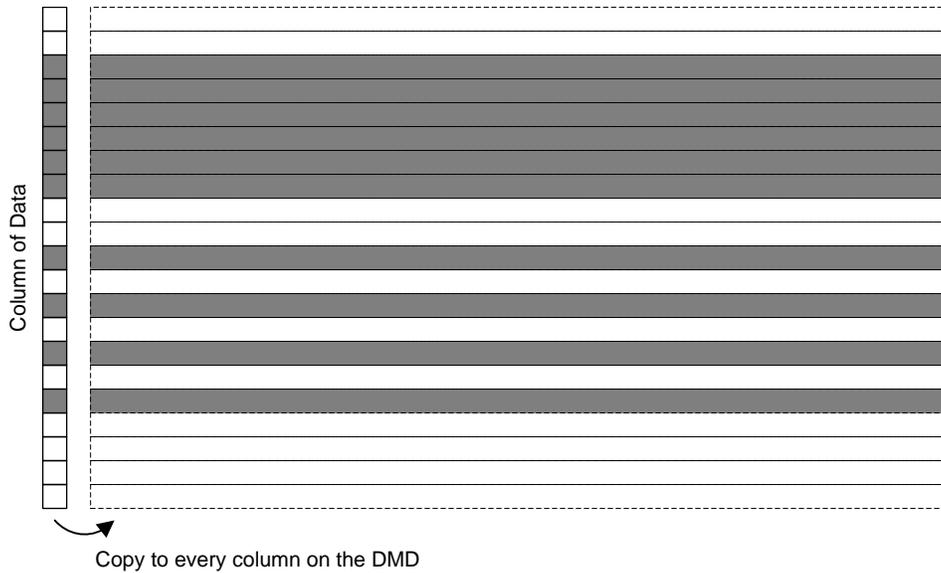
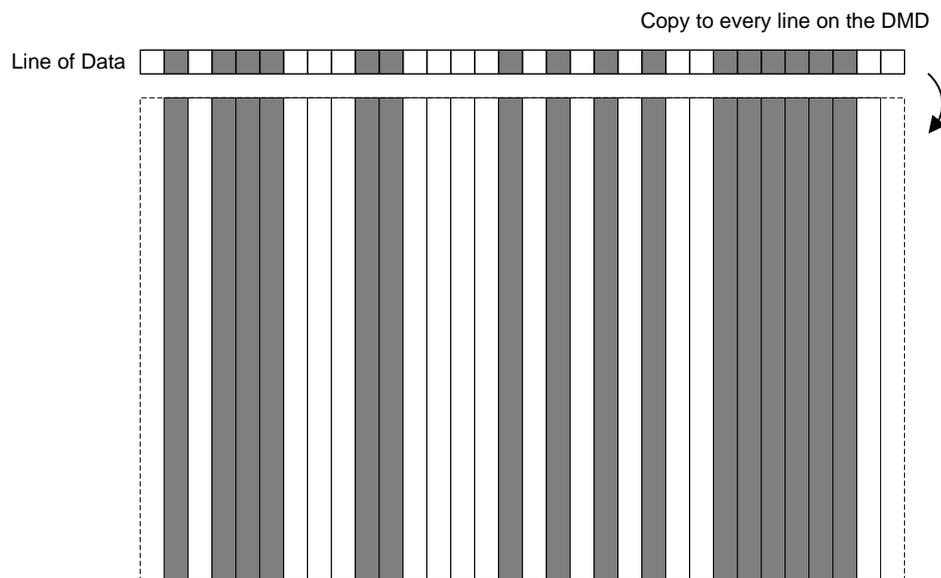

Figure 20. Column Replication
Figure 21. Row Replication
- Internal pattern mode only supports 1D patterns i.e the pattern data is same across the entire row or column of the DMD (Figure 20, Figure 21).